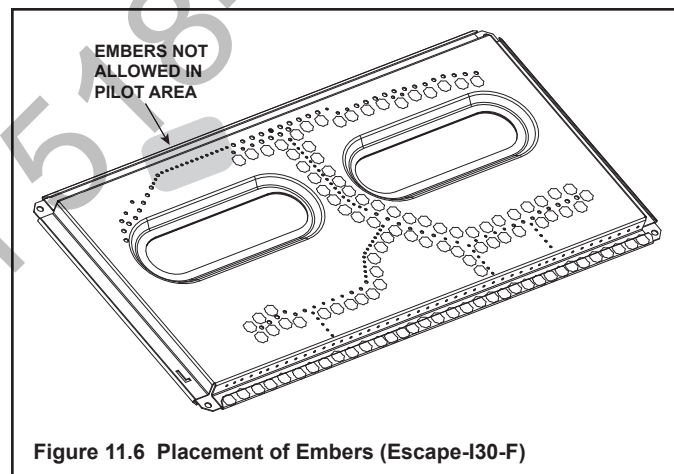
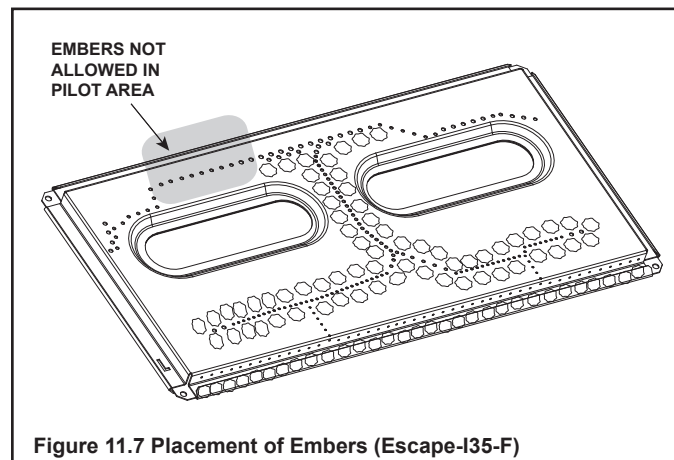

Figure 11.6 Placement of Embers (Escape-I30-F)
Figure 11.7 Placement of Embers (Escape-I35-F)
- Place dime-size pieces of Glowing Embers® just in front of the port trail, but not on or in between the ports. See Figure 11.6 (Escape-I30-F) or Figure 11.7 (Escape-I35-F). Care should be taken so that the ports are not covered. Failure to follow this procedure will likely cause lighting and sooting problems.